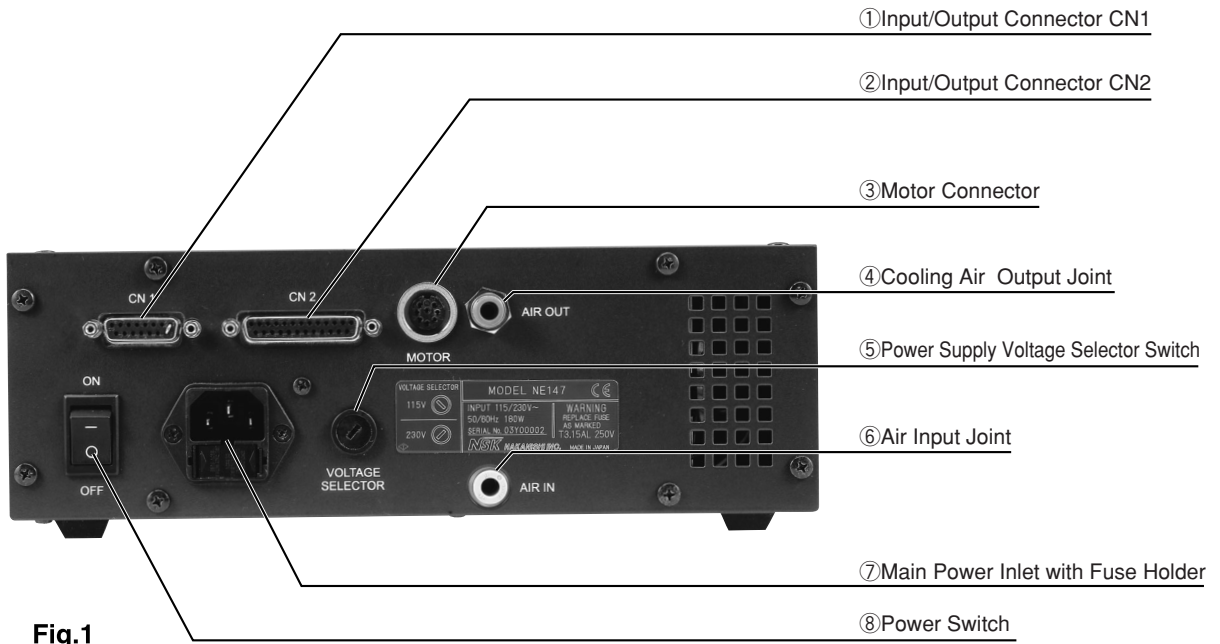

Fig.1
(1) Control unit (Fig.1)
① Input/Output Connector CN1